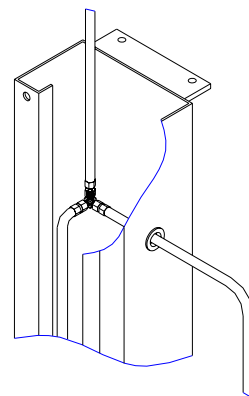

Fig. 14
- E. To prevent the carriages from rubbing the hose, pull the hoses upward taking out any slack between the cylinder fitting port and the cylinder mount. Secure the hoses to the mainside cylinder with wire tie around the tee and the cylinder, **the tee should be positioned to aim directly out through the grommet, figure 14**. Secure the hose to the offside cylinder at approximately the same height with a wire tie.